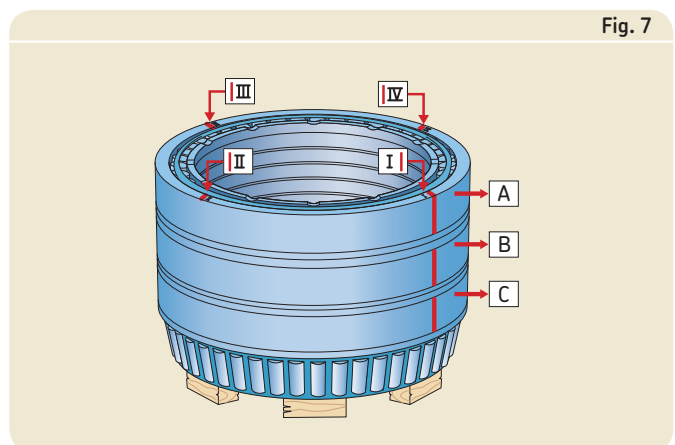

Fig. 7
- Position the other bearing rings (except outer ring D) on the inner ring C-D (→ **fig. 7**)